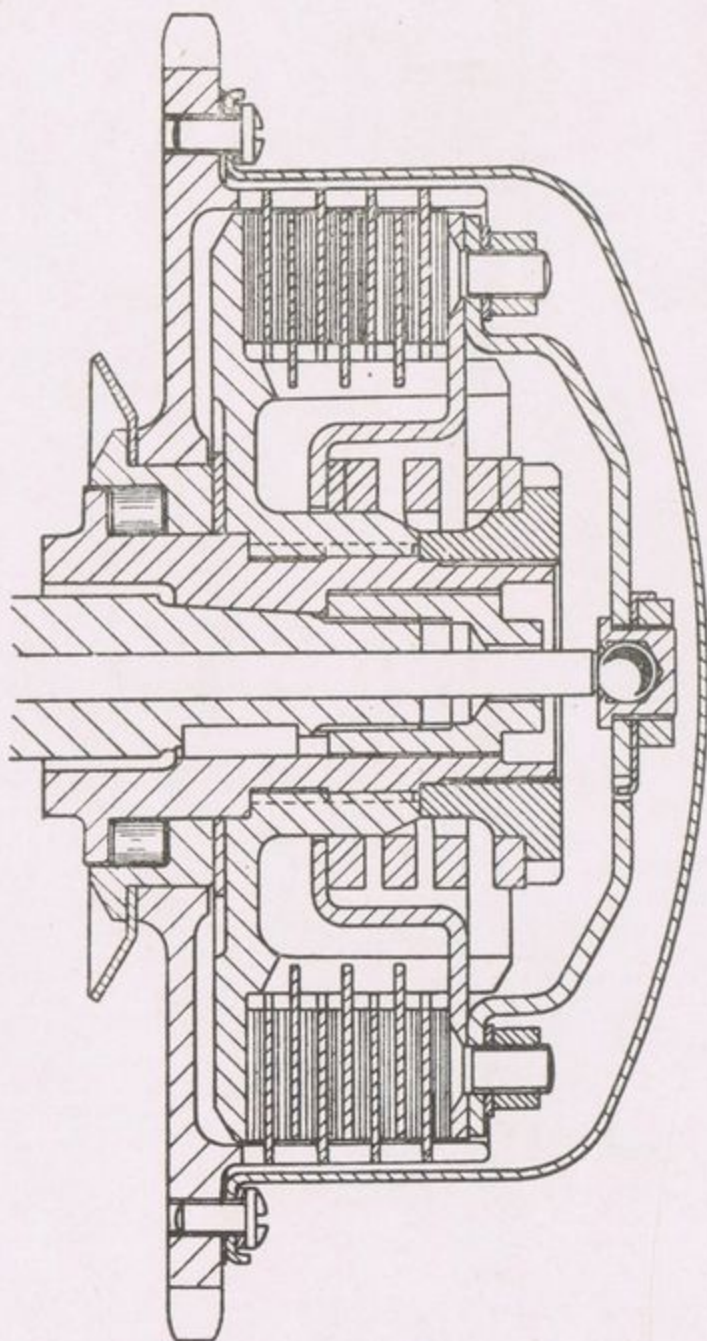

Fig. 18.
**Eight Plate Clutch** (Fig. 18). The clutch is similar to the six plate clutch, except that it is totally enclosed by a cover which is held in position by screws, and the spring pressure is not adjustable. The ring nut, therefore, must always be screwed up tight.